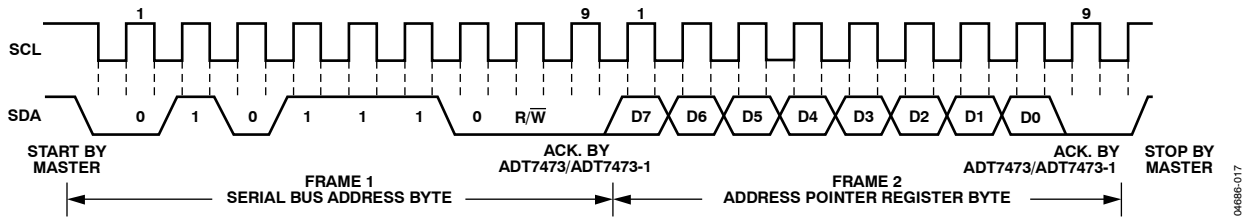

Figure 20. Writing to the Address Pointer Register Only
- If the ADT7473/ADT7473-1's address pointer register value is unknown or not the desired value, it must first be set to the correct value before data can be read from the desired data register. This is done by performing a write to the ADT7473/ADT7473-1, but only the data byte containing the register address is sent, because no data is written to the register. This is shown in Figure 20.